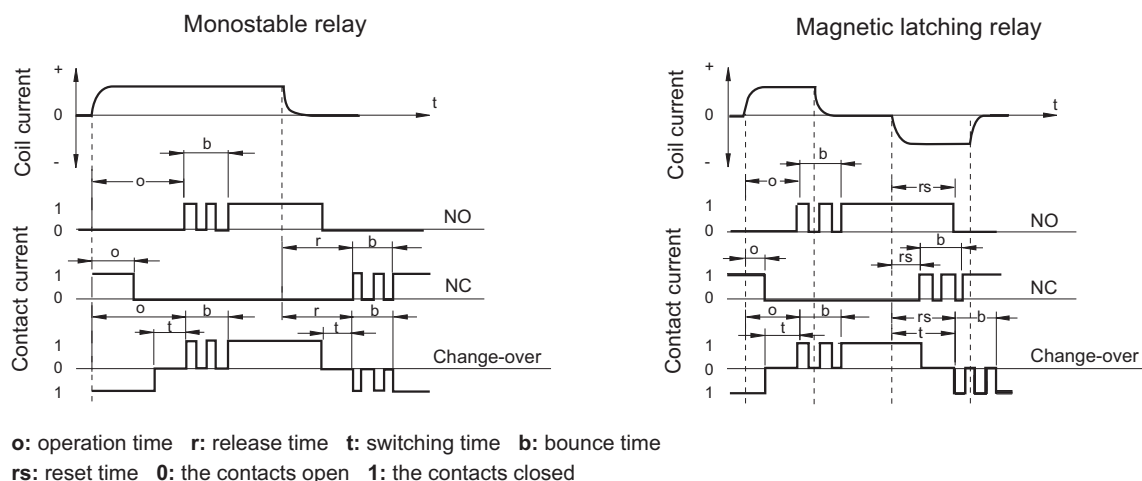

Figure 2
For the latching relays, operation time refers to, with the relay in the reset state, the elapsed time from the initial application of power to the coil, till the closure of the normal open contacts. Seen in figure 2.
2.4 Release time refers to, with the relay in the operation state, the elapsed time from the initial removal of coil power till the re-close of the normal closed contacts. It does not include bounce time and expressed in "ms". Seen in figure 2.
2.5 Reset time (only for the latching relays) refers to, with the relay in the operation state, the time from the first application of power to the reset coil till the re-close of the normally closed contacts. Seen in figure 2.
2.6 Bounce time generally refers to the time from the initial close of the contacts till the complete close and generally expressed in "ms". Seen in figure 2.